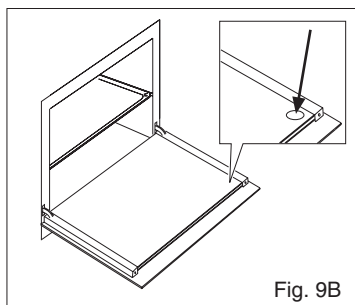

Fig. 9B
The glasses must be reassembled correctly so that the symbol (R), printed on the surface, is in the 'lower-right corner when the door is completely open (Fig. 9B).